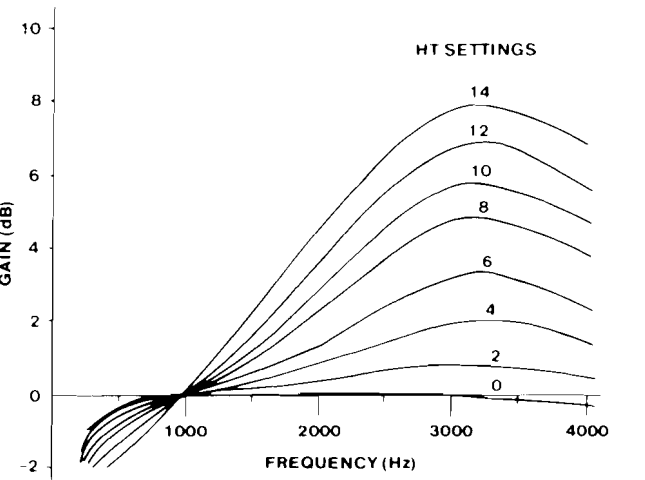
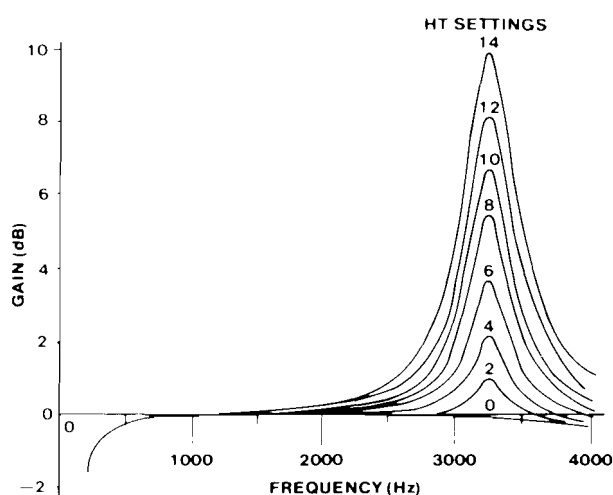

figure 7. Typical response curves for receive equalizer in bump mode, BW switch = 14
figure 8. Typical response curves for receive equalizer in bump mode, BW switch = 3
2.10 Figures 7 and 8 show typical response curves for the 309B-equivalent equalizer in the bump mode. Figure 7 shows the curves representing various height settings versus a wide bandwidth setting, while figure 8 shows the curves representing various height settings versus a narrow bandwidth setting. For comparison purposes, all frequency-response curves in both figures are drawn with the same 0dB-gain reference point (1004Hz). Actually, all of these curves except those for a height (*HT*) switch setting of 1 or 0 and/or for a bandwidth (*BW*) switch setting of 5 or less are raised above the 0dB level by as much as 3.9dB. The exact amount by which a particular curve is raised depends upon the *HT* and *BW* switch settings selected. These amounts are listed in table 2.